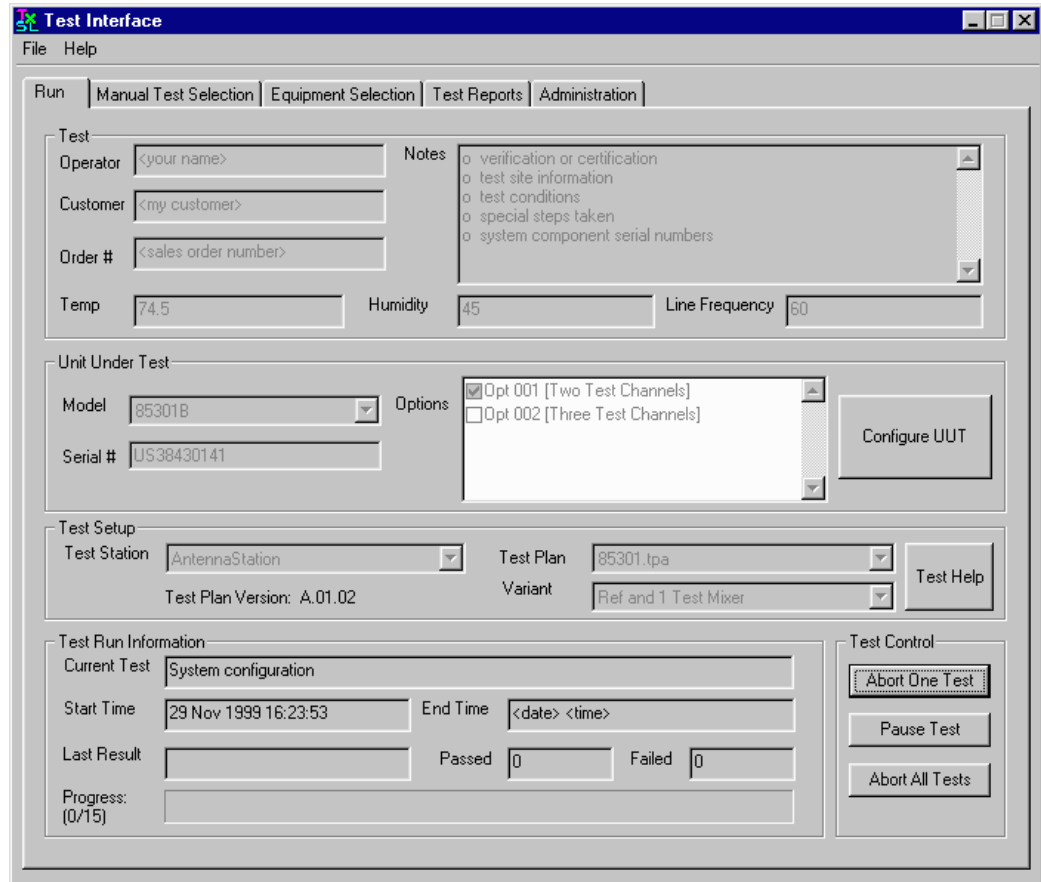

Figure 19 *Running a Test*
1. Click the **Run** tab. See Figure 19.